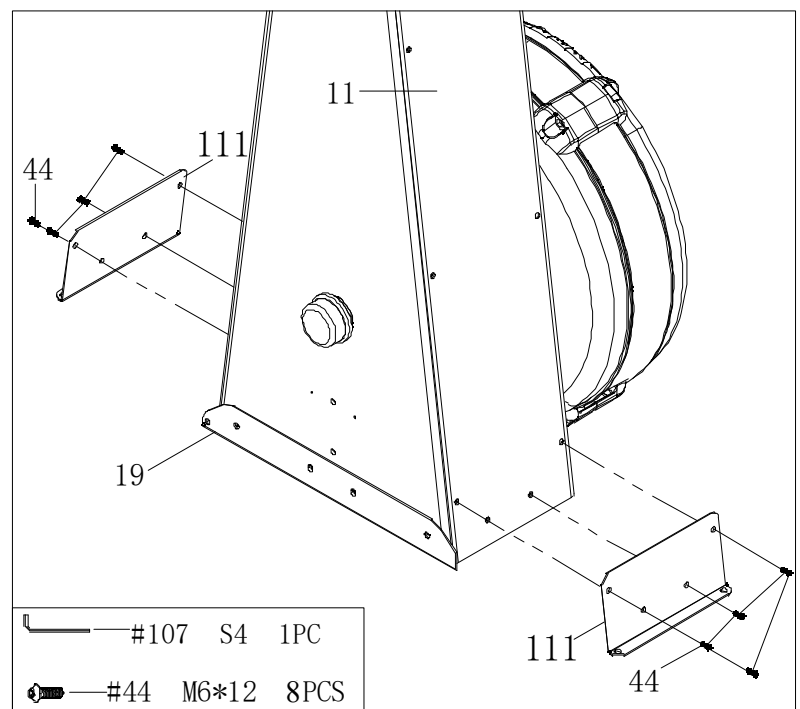

Fig. 7
2. Fix the two base connection plates (111) to the main frame (11) with eight bolts (44) (Fig. 7).